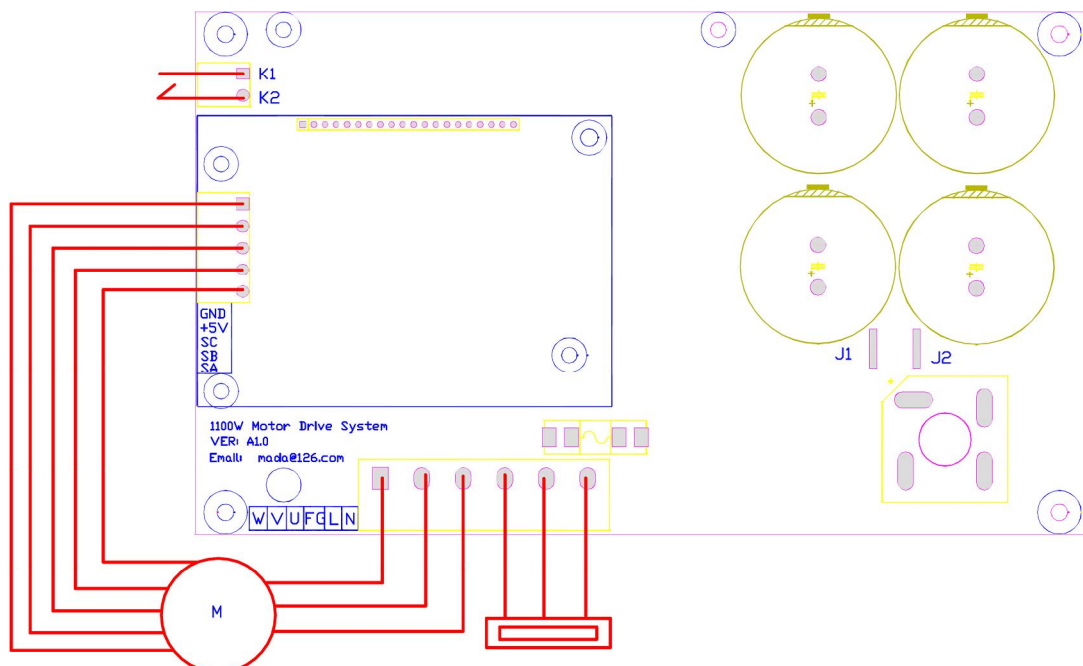

Figure1
- ◇ J1/J2--J1/J2 disconnect, the work voltage is 220V (Figure1). J1/J2 connect, the work voltage is 110V (Figure2). (Remark: J1/J2 needs to use a thick line to connect.)